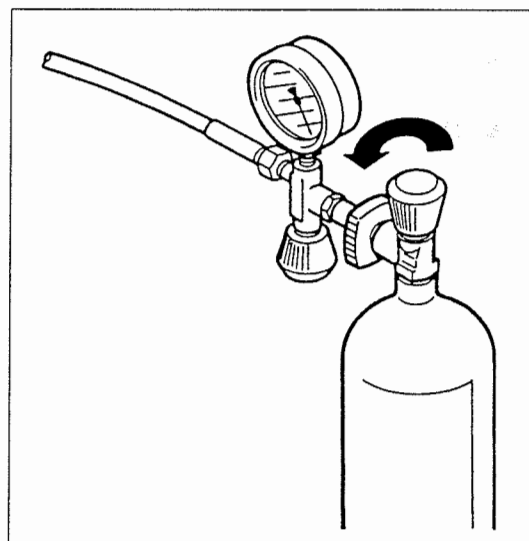

Fig. 24 Connecting air bottle
- Connect air bottle to filling valve (see Fig. 24).